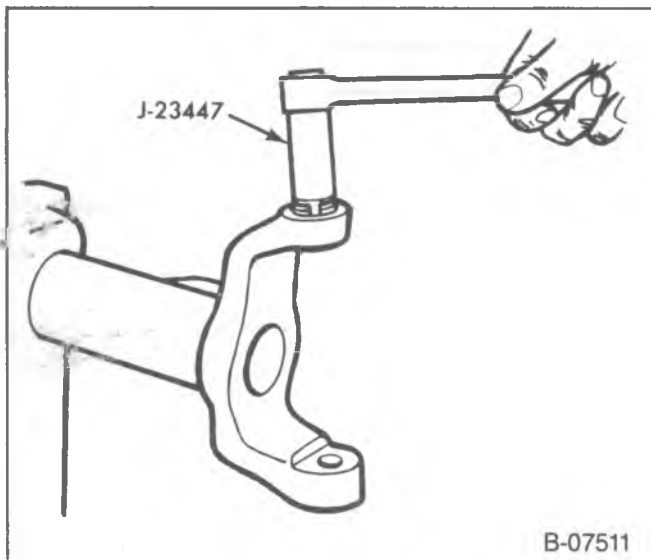

Figure 51—Tightening the Adjusting Ring
3. Spindle (265) from the steering knuckle (274).
4. Tie rod from the steering arm (297).
5. Steering arm (297) from the steering knuckle (274).
- Nuts (295) and adapters (296).
- Discard the nuts (295).
NOTICE: Do not remove the adjusting ring (300) unless new ball joints are being installed. If it is necessary to loosen the ring to remove the knuckle, do not loosen it more than two threads. Use J-23447 (figure 51). The nonhardened threads in the yoke can be easily damaged by the hardened threads in the adjusting ring if caution is not used during knuckle removal.
6. Steering knuckle (274) from the axle yoke.
- Cotter pin (298), nuts (292, 299).
- Insert a wedge-shaped tool between the lower ball joint (293) and the yoke. Tap on the tool to release the knuckle assembly.
- Insert the wedge-shaped tool between the upper ball joint (294) and the yoke. Tap on the tool to release the knuckle assembly.